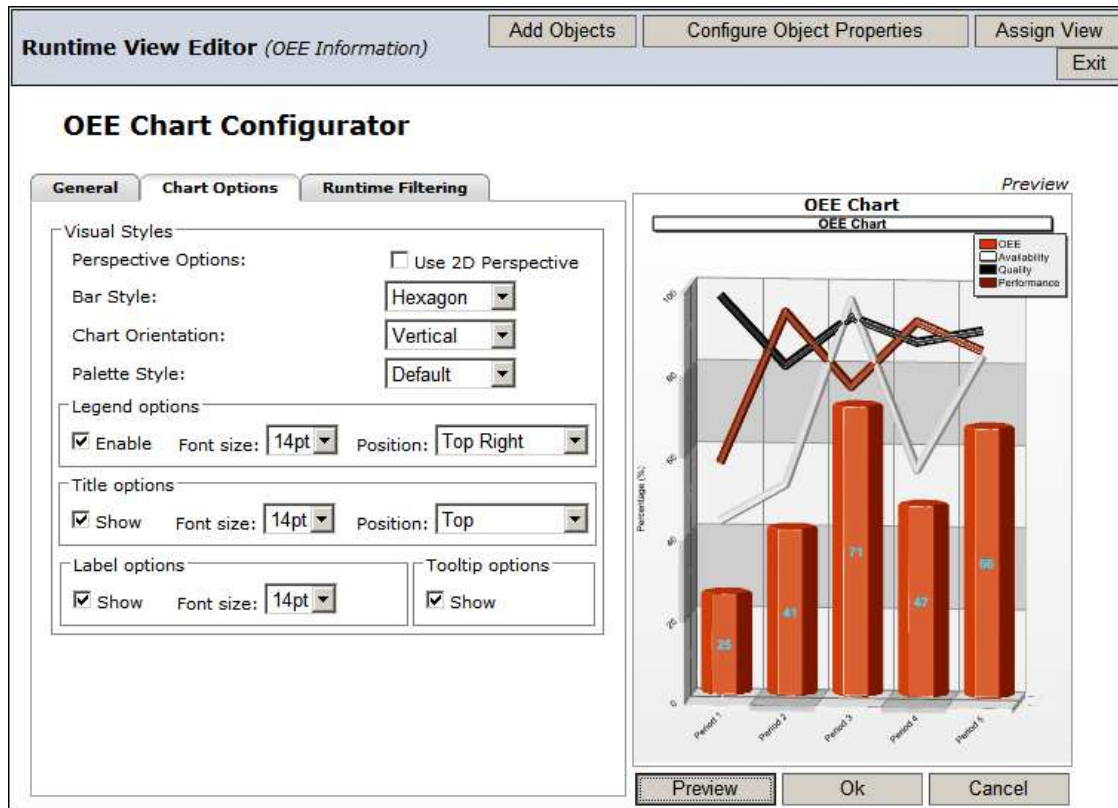

Figure L8.4 - OEE Chart Configurator: Chart Options Tab
14. Change the Palette Style to **Default** and click on the Preview button to see the effect of your changes. Your Chart Options tab should now look like Figure L8.4.